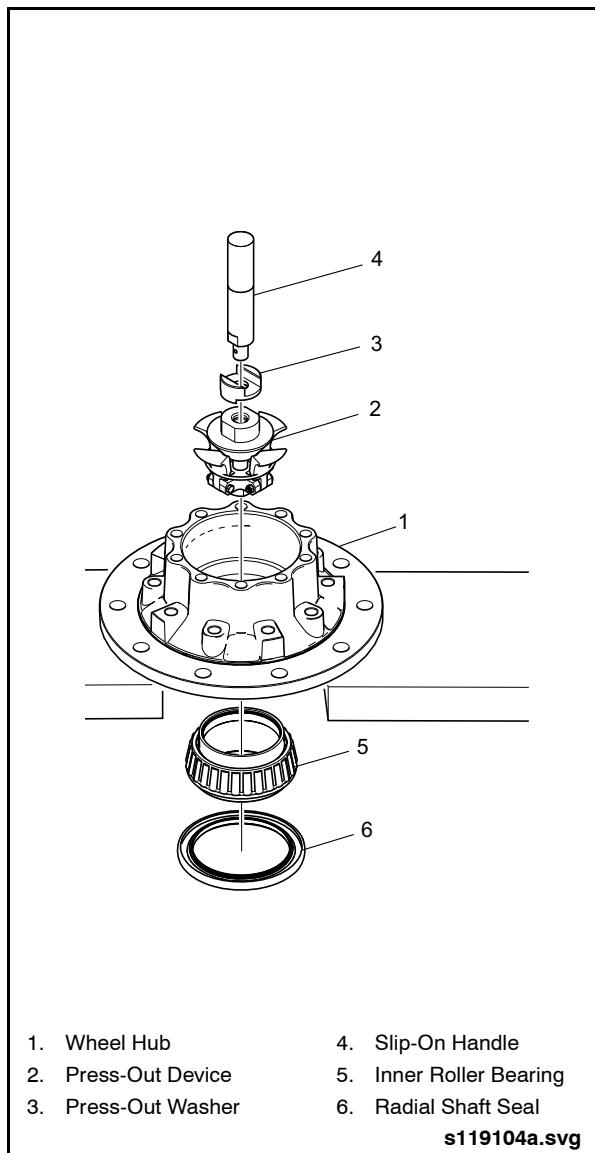

Fig. 2-22: Removing Inner Tapered Roller Bearing
1. Place the wheel hub on its inner bearing support with wood underneath. See "Fig. 2-22: Removing Inner Tapered Roller Bearing" on page 23.